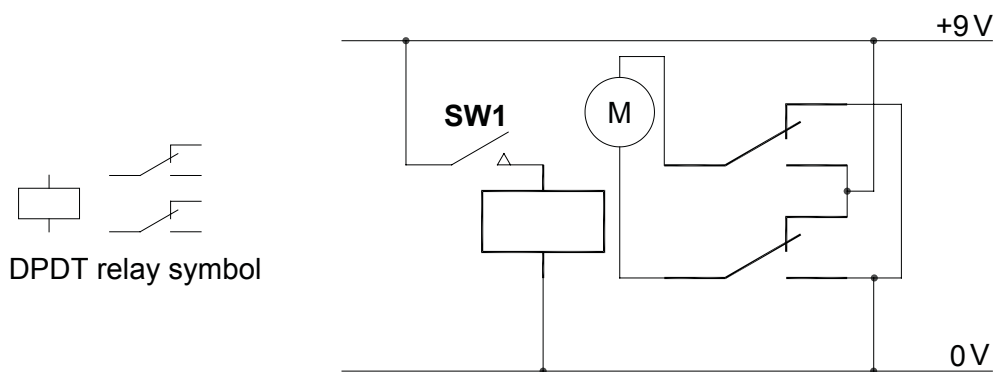

Fig. 12.3
- (e) A toy car can be made to reverse when a push to make switch, **SW1** is pressed. The circuit is shown in Fig. 12.3.
Describe how the circuit in Fig. 12.3 causes the motor to change direction.